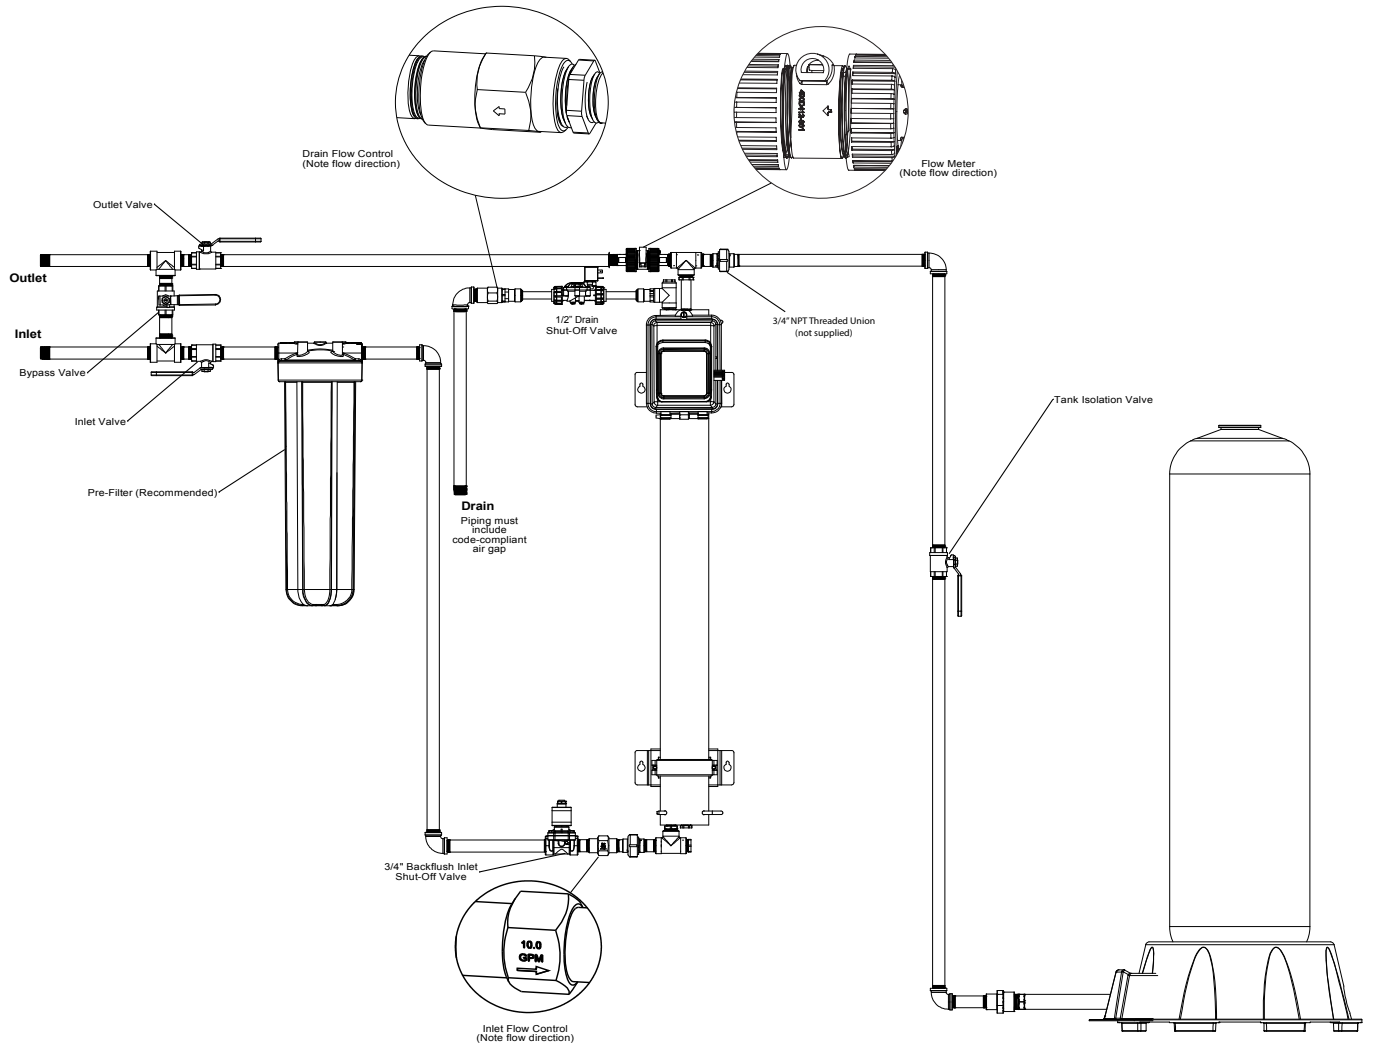

Figure 2 Backflush Surge Tank Installation
Connect the FreshPoint™ system to the plumbing supply as shown in Figure 2 Backflush Surge Tank Installation. It is recommended that the plumbing include a system bypass for future servicing, etc. A 200 µm sediment pre-filter is recommended. For ease of membrane element replacement, unions are recommended as indicated on Figure 2 Backflush Surge Tank Installation. The backflush tank should be installed on a tee before the flow meter. The backflush tank precharge pressure should be set to 20 psi (1.3 bar).
2. Install female half of union (Item 3A) onto nipple extending from the flow control. If installing with backflush kit, insert backflush kit inlet solenoid valve between union and flow control (see Figure 2).
NOTE: If installing with the backflush kit, complete the plumbing between the outlet tee and the backflush tank (see Figure 2). The backflush tank pre-charge should be adjusted to 20 psi (1.3 bar). If installed, the backflush tank isolation valve should be closed.